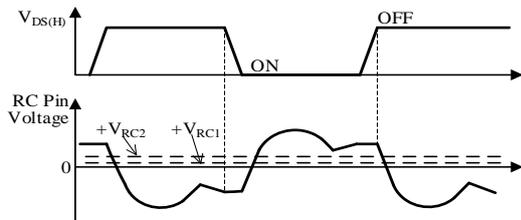
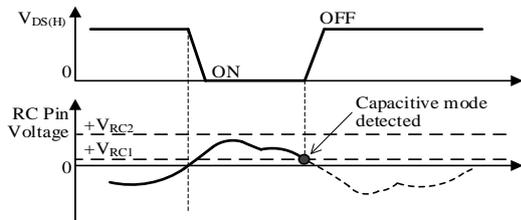
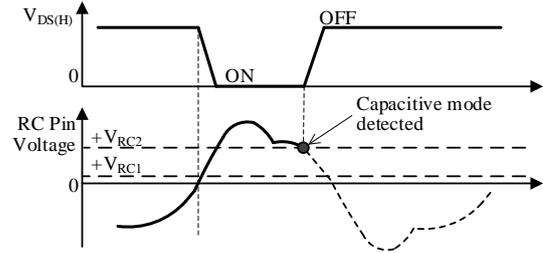

Figure 9-30. RC Pin Voltage Waveform in Inductive Area
Figure 9-31. High-side Capacitive Mode Detection (in Light Load)
Figure 9-32. High-side Capacitive Mode Detection (in Heavy Load)
The RC pin detects a resonant current to determine if a capacitive operation has occurred. When the capacitive mode is maintained for 100 ms or longer, the LLC switching operation stops. During the LLC\_OLP operation, the intermittent operation by the VCC\_UVLO is repeated (see Section 9.21). As shown in Figure 9-31 and Figure 9-32, the threshold voltage for the capacitive mode detection changes according to the load ranges:  $V_{RC1} = \pm 0.10 V$  or  $V_{RC2} = \pm 0.30 V$ . The capacitive mode detection function is described further below. In the following descriptions,  $Q_{(H)}$  represents the high-side power MOSFET, whereas  $Q_{(L)}$  represents the low-side power MOSFET.
• **Q(H) Turn-on Period**
Figure 9-30 illustrates the RC pin waveform in the inductive area; Figure 9-31 and Figure 9-32 illustrate the RC pin waveforms in the capacitive area. In the inductive area, the RC pin voltage does not cross over the positive threshold voltage from high to low during the Q(H) turn-on period (see Figure 9-30). Conversely, in the capacitive area, the RC pin voltage crosses over the positive threshold voltage from high to low. At this point, a capacitive mode operation is detected. Then, Q(H) is turned off, whereas Q(L) is turned on (see Figure 9-31, Figure 9-32).
• **Q(L) Turn-on Period**